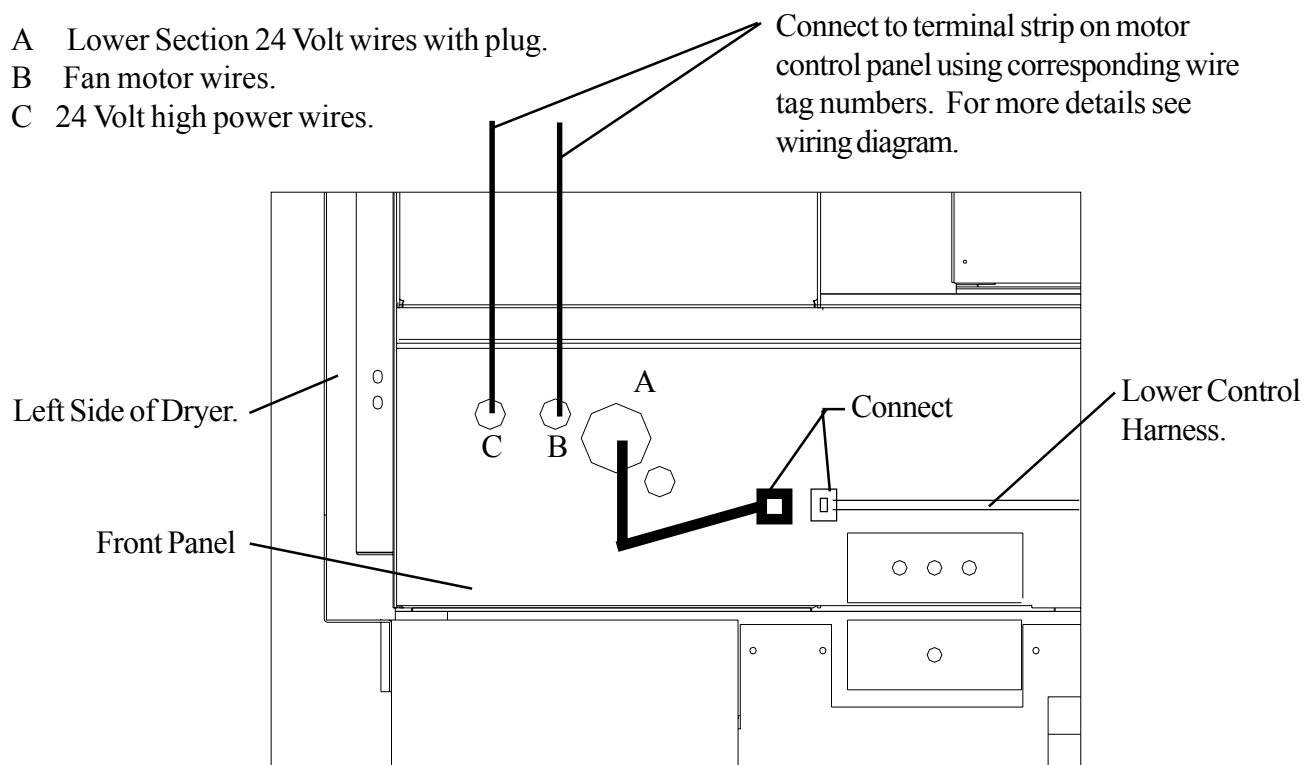

Figure-4B
STEP 11: Connect Lower Section 24V wires with plug (labeled F1-F3) into Lower Control Harness which runs across the front of the dryer (See Figure-4B). Connect Fan Motor wires into terminal strip in right control box on front of dryer using corresponding numbers on wire tags (See Figure-4B). Connect Run 24V High Power wires (labeled L1-L3) into terminal strip in right control box on front of dryer using corresponding numbers on wire tags (See Figure-4B).
STEP 12: Connect Lower Section 24V wires with plug (labeled F1-F3) into Lower Control Harness which runs across the front of the dryer (See Figure-4B). Connect Fan Motor wires into terminal strip in right control box on front of dryer using corresponding numbers on wire tags (See Figure-4B). Connect Run 24V High Power wires (labeled L1-L3) into terminal strip in right control box on front of dryer using corresponding numbers on wire tags (See Figure-4B).
STEP 12A: On dryers with automatic doors you will need to take the ¼" nylon tube which you ran through hole "A" in the front panel and connect it to the ¼" nylon tube that runs across the front of the dryer, using the straight fitting on it (See Figure-4B).